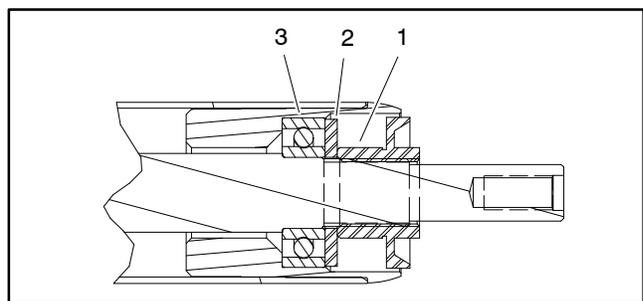

Figure 36
2. Position a new bearing, black assembly washer (see Special Tools) and original lock nut onto each end of the roller shaft (Fig. 36).